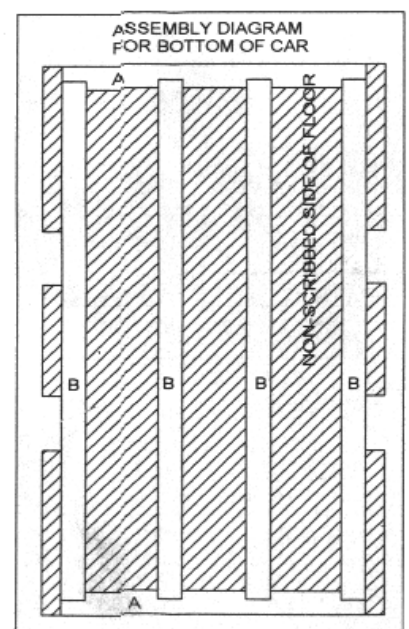

Figure 2
- 2) Glue parts a & b together as shown in figure 2 to form the base assembly
- 3) When the base assembly has dried, glue it to the non-scribed side of the floor. It should be centered in between the stake pocket notches. (fig 2)